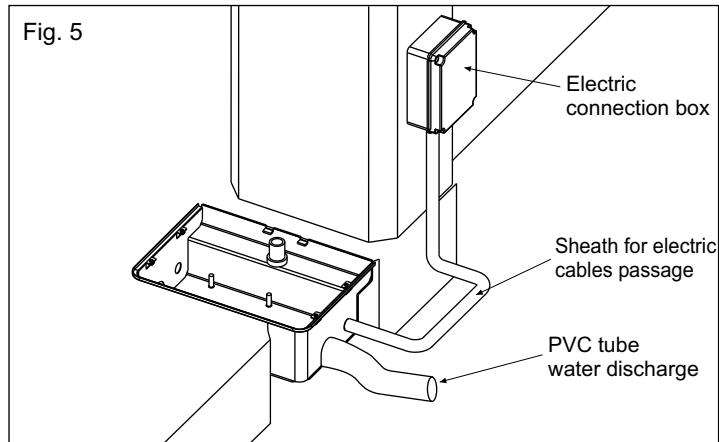

Fig. 5
- a water waste pipe in PVC of about 40 mm of diameter to put inside the provided hole of the box before it is concreted (Fig. 5). **It must be brought until the drain of the sewer line;**
- a sheath for the passage of electrical cables of about 20 mm of diameter which must be brought to the proximity of the electric connection box (Fig. 5).